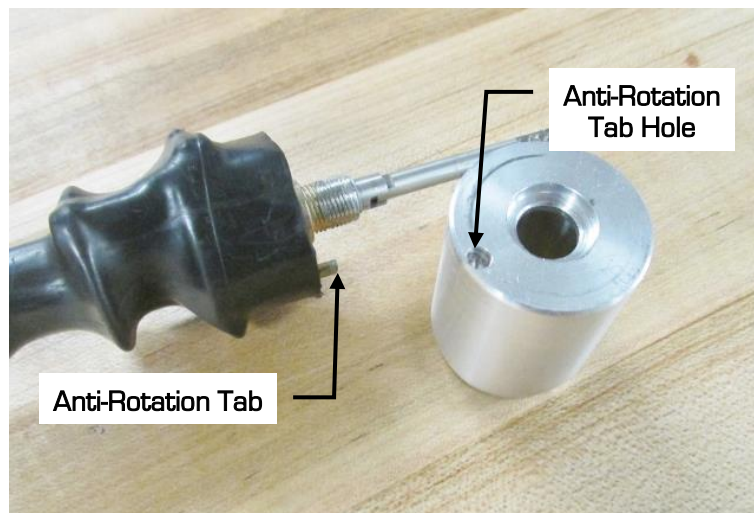

Figure 13 – Place Spacer on Wiper Switch
18. Place the DSE wiper switch spacer onto the DSE wiper switch making sure the anti-rotation tab fits in the blind hole on the back of the spacer (Figure 13).